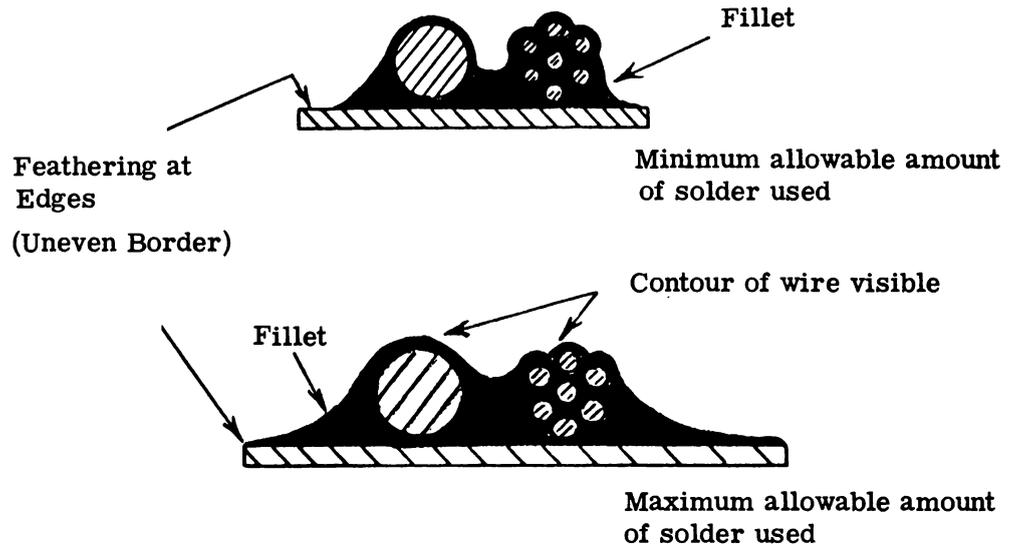

Figure 3-21
- (1) All wraps shall be fully loosened and have mechanical security.
- (2) Good filleting, Figure 3-21.